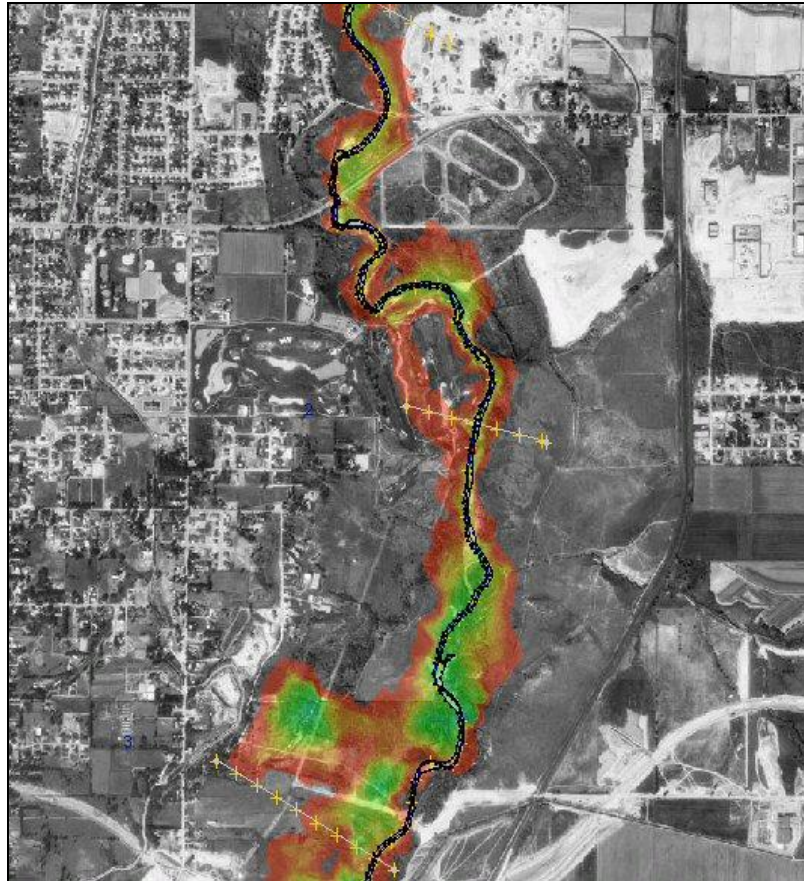

Figure 7 Flood depth map
13. Select “W.S. Elev-PF 1\_wl” from the Project Explorer and experiment with viewing the results, similar to the flood depth. If desired, experiment with adjusting the transparency and turn the background image on as shown in Figure 7. When specifying the range, notice that the default values are actual TIN elevations.